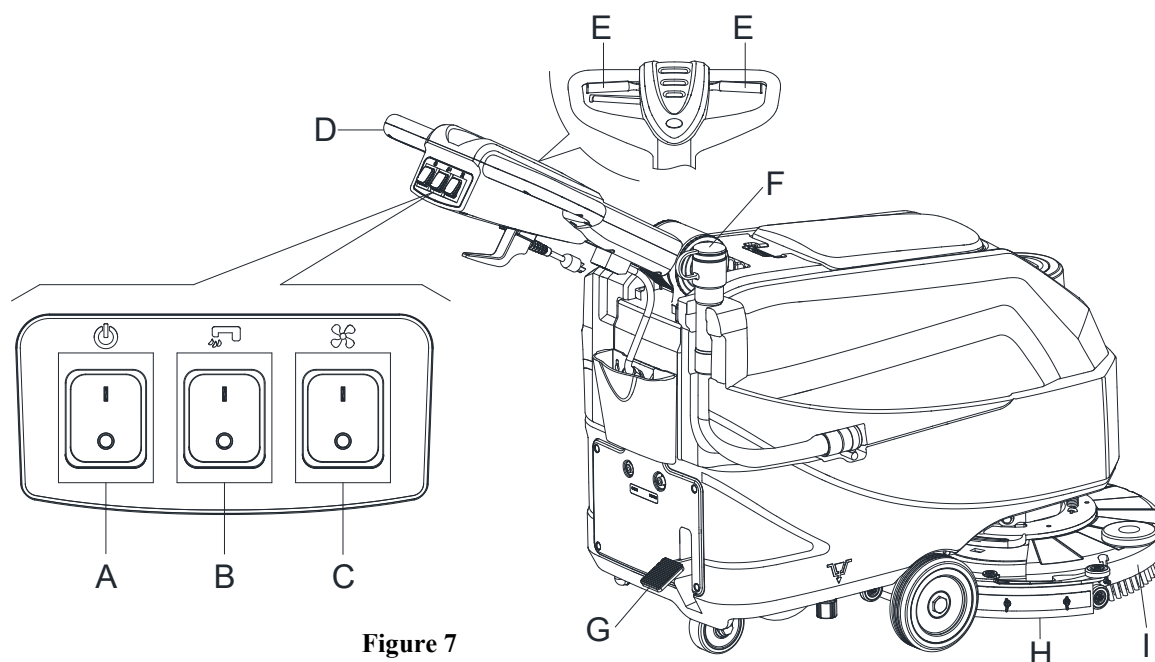
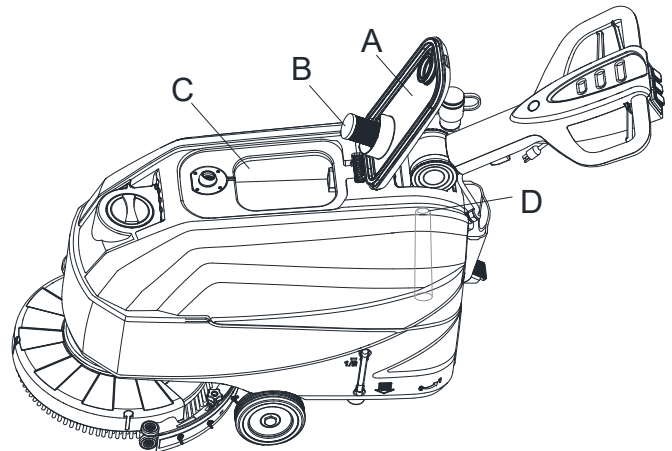

Figure 7
Figure 9
2. Push the machine to the area to be cleaned, by pushing it with the hands on the handlebar (D, Figure 7).
3. Lower the brush/pad-holder deck (I, Figure 7) and the squeegee (H) by lifting the pedal (G).
4. Press the power switch (A, Figure 7) to the "I" position.
5. Press the solution switch (B, Figure 7) to the "I" Position. (Work simultaneously with the safety switch (E) to control the solenoid valve.)
6. Press the vacuum switch (C, Figure 7) to the "I" position.
7. Start cleaning by pushing the machine with the hands on the handlebar (D, Figure 7) and pressing the safety switch lever (E, Figure 7).
To move the machine forward, press either the left or right safety switch lever (E, Figure 7) or both.
10. Stop the machine by using the handlebar (D, Figure 7).
11. When you have finished using the machine, release the safety switch lever (E) to turn off the brush/pad-holder and solenoid valve.
12. Press the solution control switch (B) to the "OFF" position to completely turn off the solution flow.
13. Press the Vacuum switch (C) to the "OFF" position. The vacuum system stops after a few seconds.
15. Lift the brush/pad-holder deck (I, Figure 7) and the squeegee (H) by pressing the pedal (G).
2. While keeping both hands on the handlebar press the safety switch lever (E, Figure 7), then maneuver the machine and start scrubbing/drying the floor.
An automatic float shut-off system (B, Figure 9) blocks the vacuum system when the recovery water tank (C) is full. The vacuum system deactivation is signaled by a sudden increase in the vacuum system motor noise frequency, also the floor has not dried.
If the vacuum system turns off accidentally (for example, when the float is activated because of a sudden machine movement), to resume the operation: press the power switch (39 and 41) to turn off the power and vacuum system, then open the cover (A, Figure 9) and check that the float inside the grid (B) has gone down to the water level. Then close the cover (A) and press the power switch (39 and 41) turn on the main power and the vacuum system.
When the recovery water tank (C, Figure 9) is full, empty it according to the following procedure.
2. Lift the brush/pad-holder deck (I, Figure 7) and the squeegee (H) by pressing the pedal (G).
4. Empty the recovery water tank with the hose (F, Figure 7). Then, rinse the recovery tank (C, Figure 9) with clean water.
5. Remove the recovery tank lid (A, Figure 9) and clean the inside of the cover and the filter floater grid (B) with clean water.
6. Check the recovery tank (D, Figure 9) whether there is foreign body jam and clean it.